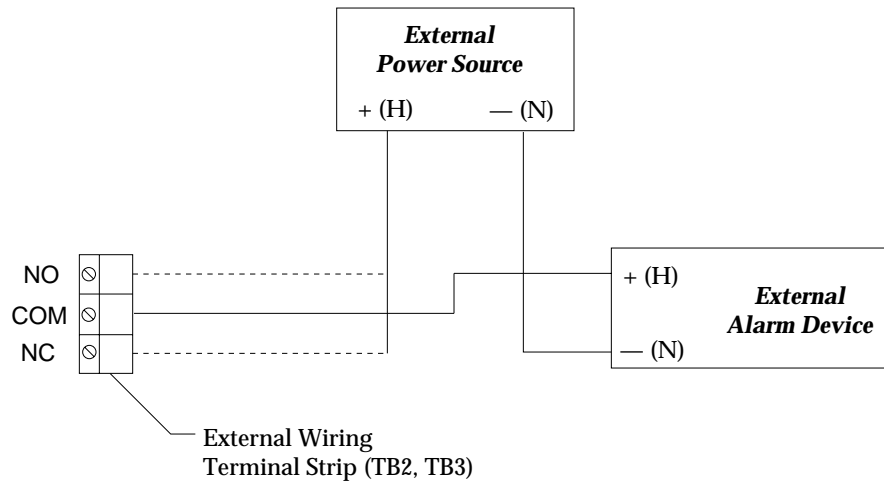

Figure 3-5: External Alarm Wiring
3. Connect the leads from the external alarm to the terminals on the appropriate external wiring terminal strip as shown in Figure 3-5. See Table 2-1, Terminal Assignments for the External Wiring Terminal Strips, to determine the applicable external alarm terminals.